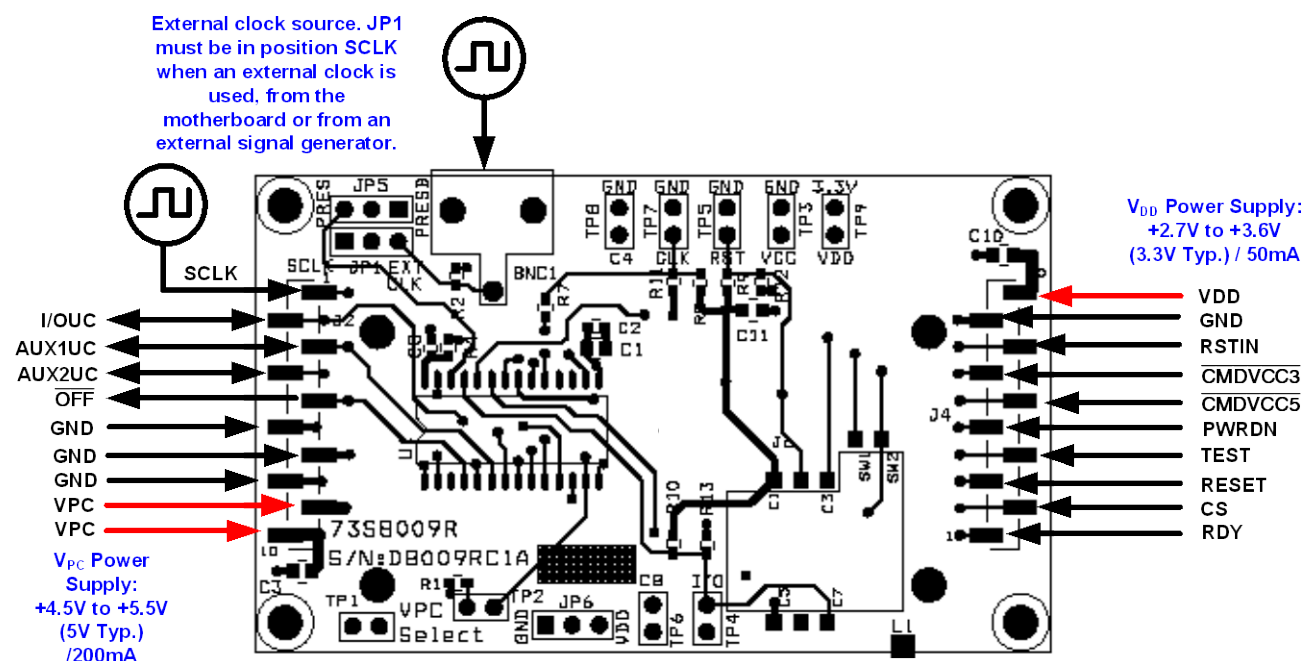

Figure 2: 73S8009R Demo Board External Connectors
This section describes the 73S8009R Demo Board external connectors. All the digital signals and power supply connections are made through 10-pin header connectors labeled J2 and J4 in Figure 2.
- Control signals to the device can be connected through J2 and J4. See Figure 2 and Figure 4.